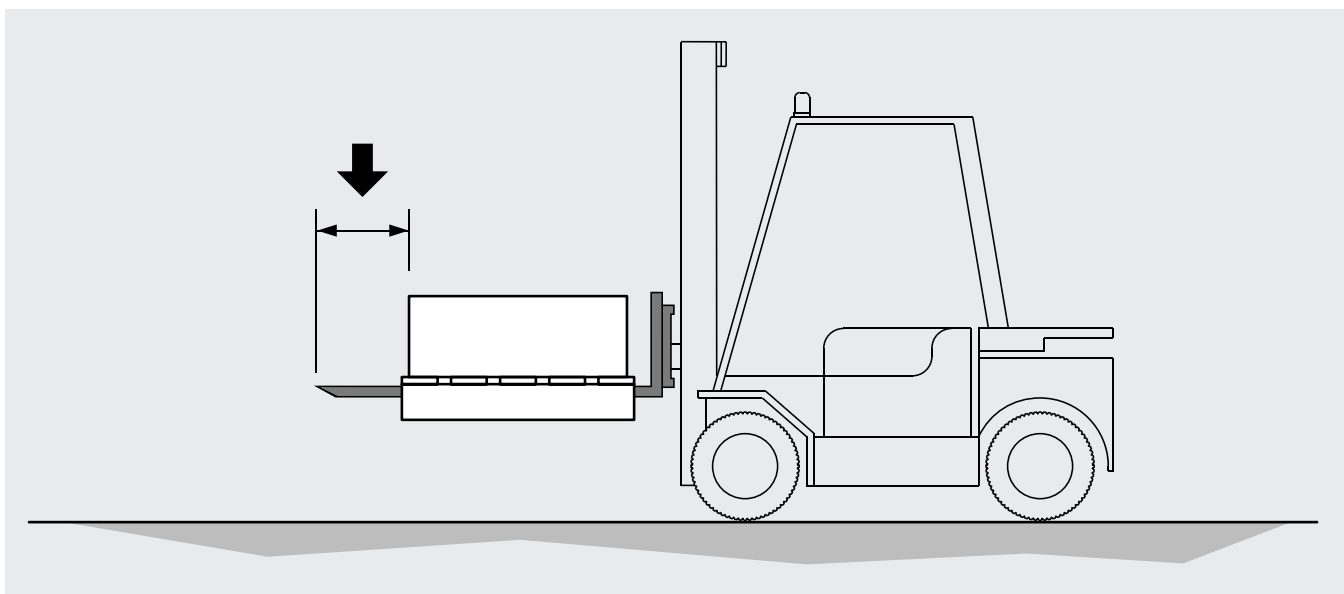

Figure 3
- 5.2 When handling with a forklift truck, the lifting brackets must be longer than the depth of the packaging and/or of the model. See Figure 3.